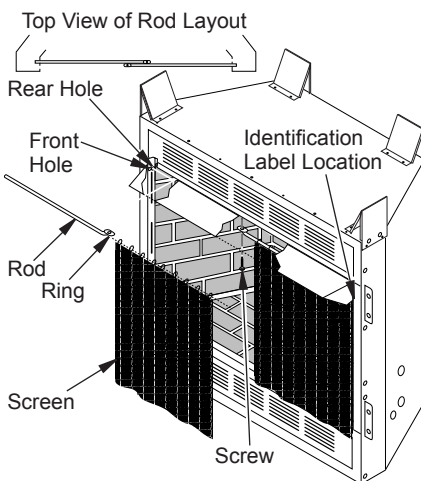

Figure 19 - Installing Fireplace Screen (Model May Vary From Illustration)
NOTICE: The firebox identification label (including model number, serial number, clearances, etc.) is located in the right side screen pocket area on the front of the firebox. See Figure 19, page 17.
3. Insert first rod into rear hole in left side of firebox. Fasten rod to rear hole near center of firebox using #10 x 3/8" Phillips screw provided (see Figure 19).